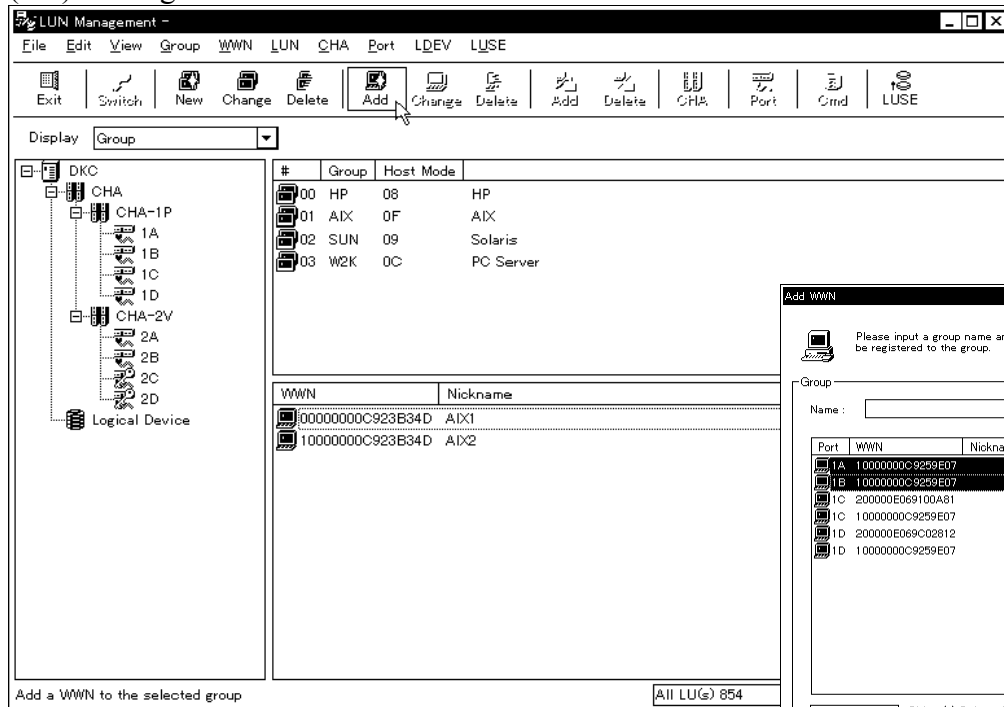

Figure 4.1.1 Main window
- ① Select (CL) a group to which you want to add a WWN from the upper right list.
- ② Select (DR) [Add] from the [WWN] menu in the Main window (Figure 4.1.1).
Details of the Main Window(Figure 4.1.1) and the other windows are shown on the following page.